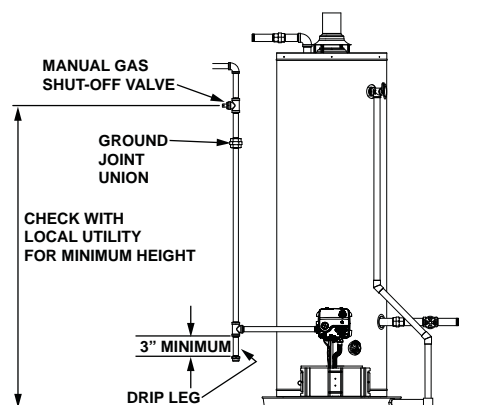

FIGURE 7.
**NOTE:** Use pipe joint compound or teflon tape marked as being resistant to the action of petroleum [Propane (L.P.)] gases. (See Figure 7.)